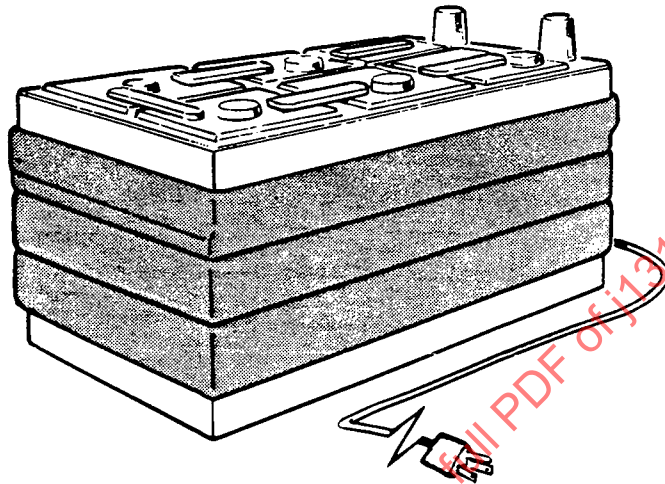

FIGURE 9
7.1.4 Blanket Type: Flexible construction (Figure 9) comprised of a heavy aluminum foil element assembly of low watt density, complete with fiberglass insulation on one side, enclosed in a heavy gage acid-resistant plastic sheath. The unit is provided with ties and is intended to be installed tightly around the sides of the battery or batteries. This unit has the advantage of integral insulation.